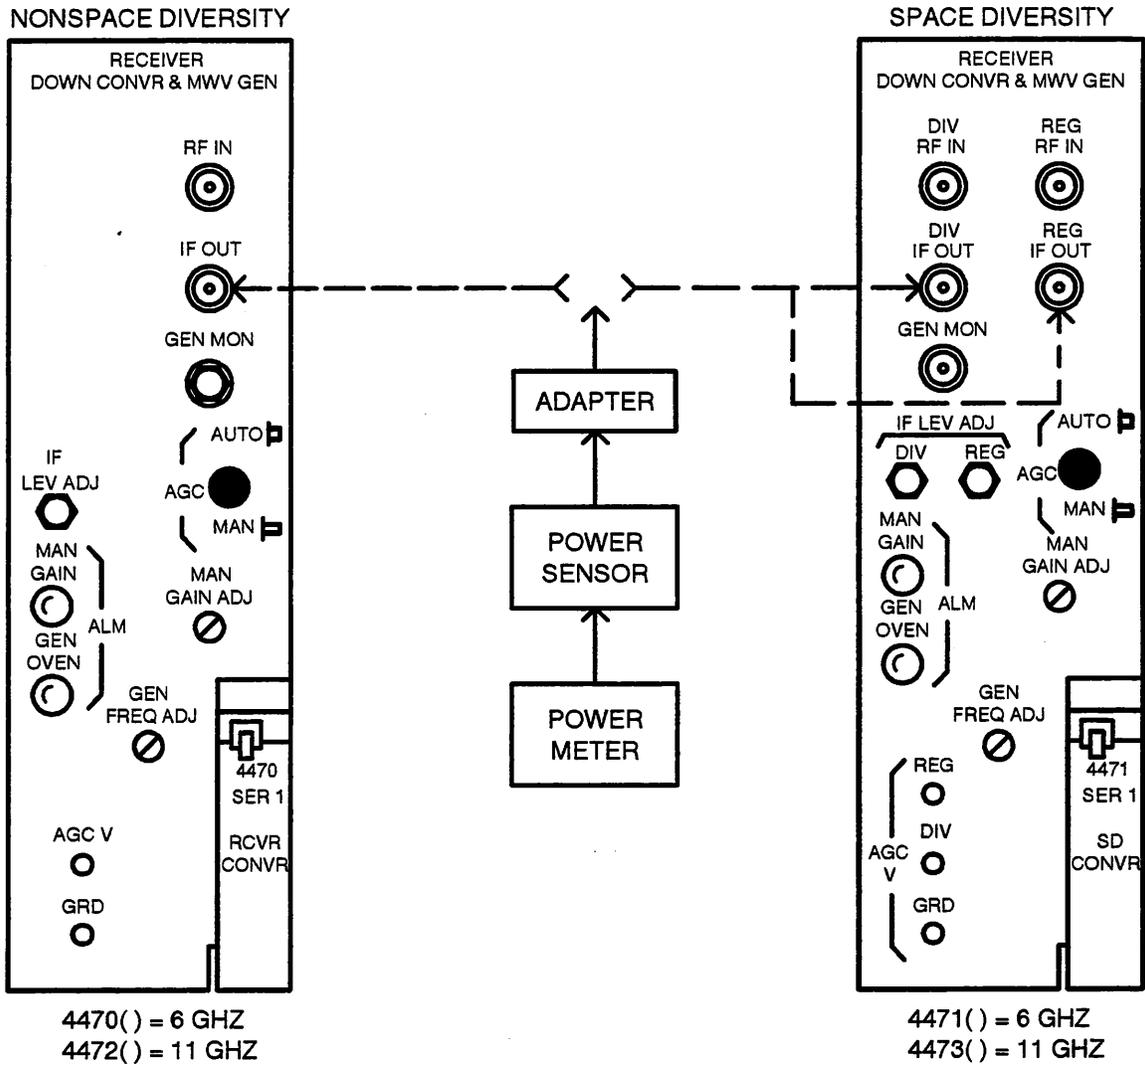

Figure 4- Receiver Down-Converter IF Output Level Check (4400 Series)
- Refer to Figure 4.
3. Condition the power meter to measure the expected power level (normally +5 to -15 dBm), and connect it to the IF OUT jack on the RCVR CONVR (Figure 4).